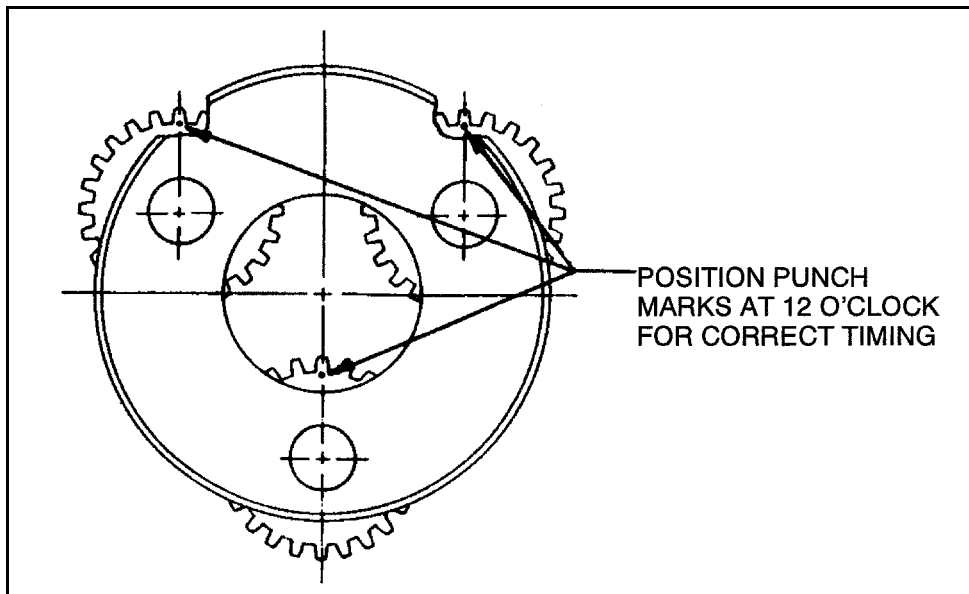

Figure 2-20. Torque Hub Carrier Timing
- a. Place carrier assembly on a flat surface, positioning two top gears at ten o'clock and two o'clock, and one bottom gear at six o'clock as shown in Figure 2-20., Torque Hub Carrier Timing.
**NOTE:** The screws, hub pinion gear, and retaining plate referenced in steps (2) and (3) are not shown in Figure 2-20, but are attached to the hub output shaft (item 30).
5. Remove four shoulder bolts (3) and lockwashers (4) from counterbored holes in cover of drive hub assembly.
6. Remove remaining eight bolts (2) which attach cover (1) to ring gear 7.
7. Carefully remove cover assembly (1) from input gear (18) together with outer thrust washers (8) and thrust bearing 9. Remove and discard outer o-ring (6).
8. Remove thrust washer (17) from small diameter of input gear (18).
9. Carefully withdraw input gear (18) from cluster gear (11) and output shaft (30).
10. Rotate ring gear (7) and check that each of the three cluster gears (11) incorporates a punched timing mark.
11. Carefully withdraw ring gear (7) from assembly.